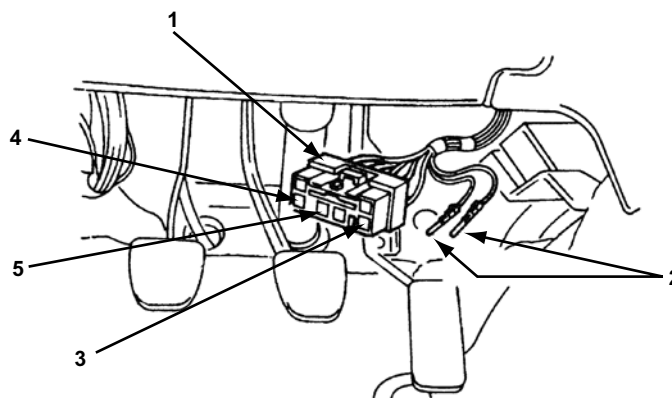

Figure 15-51 1995-99 Legacy, 1998-04 Impreza, 2001-04 Forester and 2003-04 Baja ABS Diagnostic Connector Location
- 1995–1996 Legacy/Outback, Sedan and Wagon w/o TCS (Figure 15-51)
- 1995–1996 Legacy/Outback, Sedan and Wagon with TCS (Figure 15-51)
- 1993–1996 Impreza Coupe, Sedan and Wagon w/o TCS (Figure 15-51)
- 1997 (late)–1999 Legacy/Outback, Sedan and Wagon (Figure 15-51)
- 1998–2001 Impreza Coupe, Sedan and Wagon (Figure 15-51)
- 2001 Forester (Figure 15-51)
- 2003–2004 Baja (Figure 15-51)
1. Locate the ABS diagnostic connector and diagnostic terminals near the heater assembly on the driver side (Figure 15-51).
1. Disconnect the diagnosis terminal from the diagnosis connector terminal 6 (Figure 15-51).
1. Disconnect the diagnosis terminal from the diagnosis connector terminal 4 (Figure 15-51).